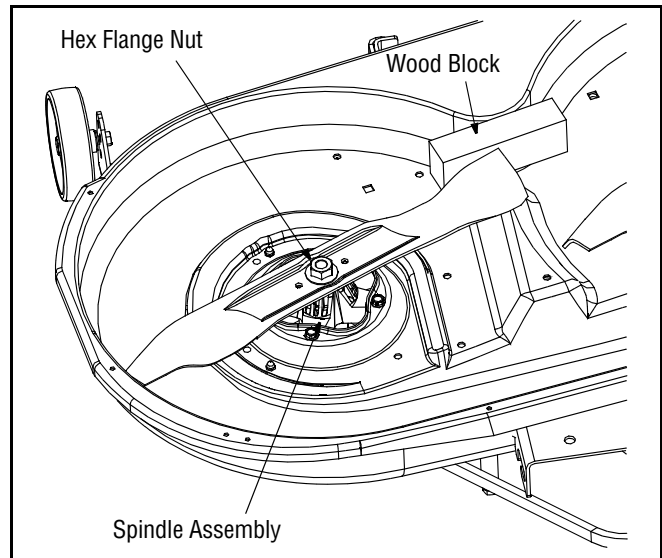

Figure 19
- Place a block of wood between the center deck housing baffle and the cutting blade to act as a stabilizer. See Figure 19.
- Use a 1-1/8" wrench to remove the hex flange nut that secures the blade to the spindle assembly. See Figure 19.